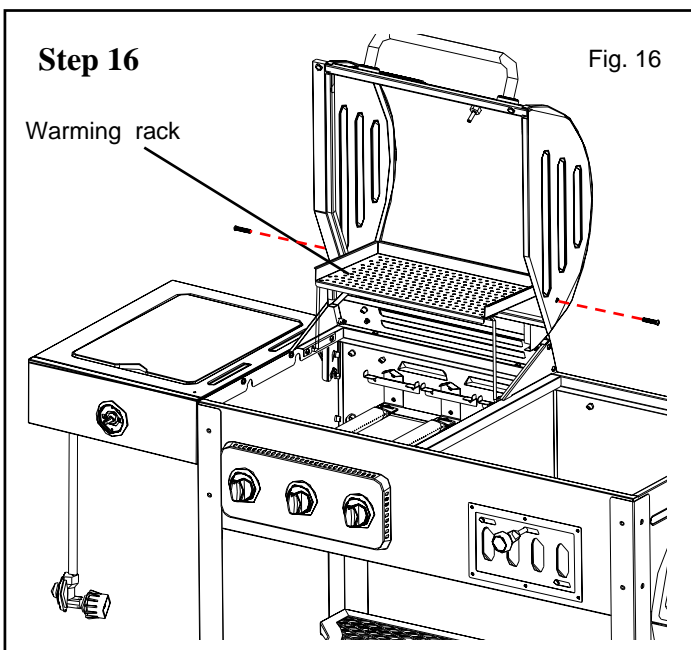

Fig. 16
Refer to Fig. 16, attach the back of the Warming Rack to the gas grill lid with (2) M6X35 Bolts as shown. Insert the Front Wire Legs into the holes on each side of the Grill. Open and close the Lid to be certain the Warming Rack moves smoothly.